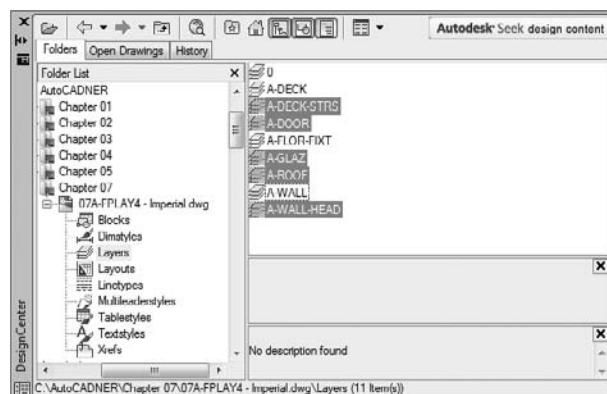

FIGURE 7.54 The DesignCenter with the layers to grab highlighted
8. Use the Shift and Ctrl keys to help you select all the layers except 0, A-DECK, A-FLOR-FIXT, and A-WALL (see Figure 7.54).